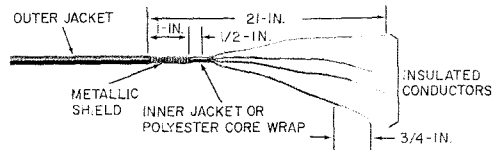

Fig. 30—Prepared Service Wire—E Cable Closure
6.04 Prepare service wire for E cable closure as illustrated in Fig. 30.